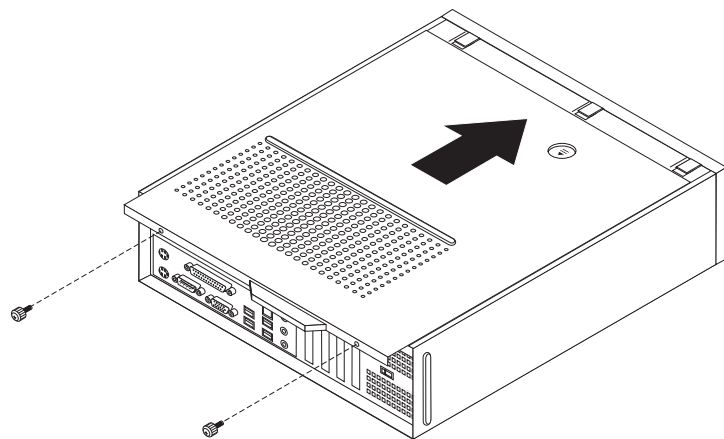

Figura 39. Sliding on the cover
5. Replace the computer cover and connect the power cord. See Figura 39 a pagina 31.